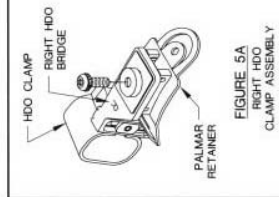

FIGURE 5A
- 4) Reassemble as shown in **Figure 5A** for right hand, **5B** for left. Be sure that HDO bridge is oriented toward ulnar side.